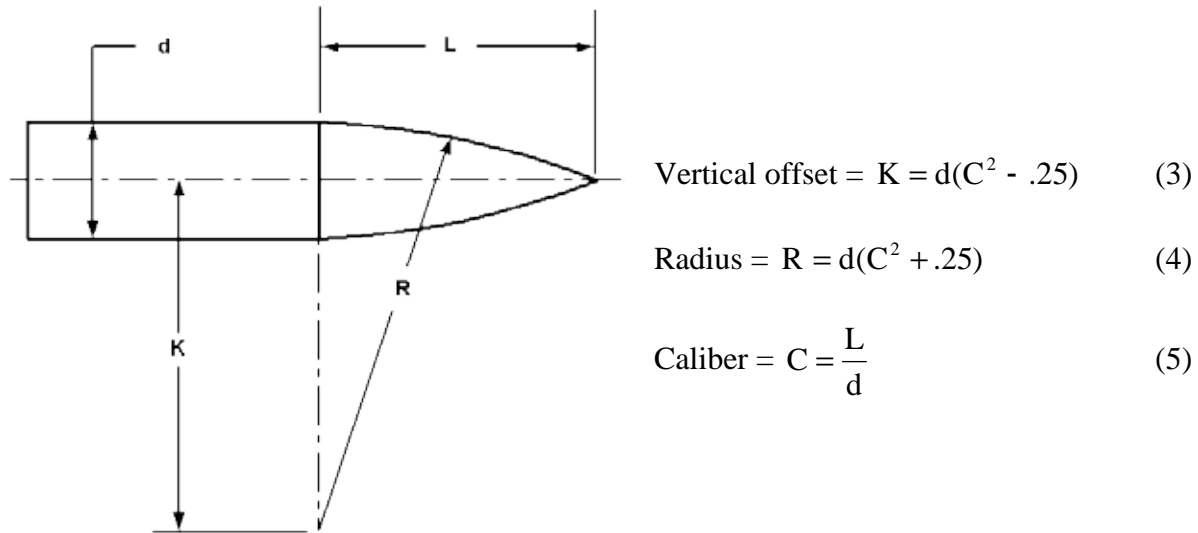

Figure 3.
Using Figure 1 and Figure 3, along with some mathematical maneuvering, you can derive equation (1). As my math professors in college were so fond of saying, "the solution to that exercise will be left to the student to complete..." (or see Appendix A).
Tangent Ogive (graphical method, layout Figure 3)